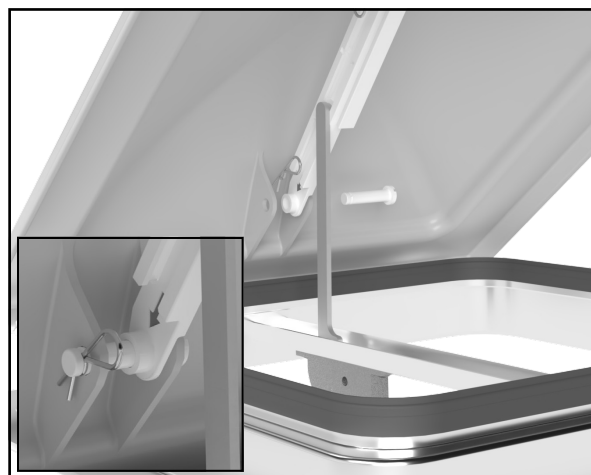

Figure 13
- I. Allowing the lift arm to control the left/right position of the cross bar, slide a hinge pin thru the hole in one side of the cross bar mount on the inside of the lid, thru the cross bar and thru the other side of the cross bar mount. It doesn't matter which way the pin goes and it doesn't matter if you do the front or rear first. **(Figure 13)**
- II. Secure with a hair pin. **(Figure 13 Inset)**.